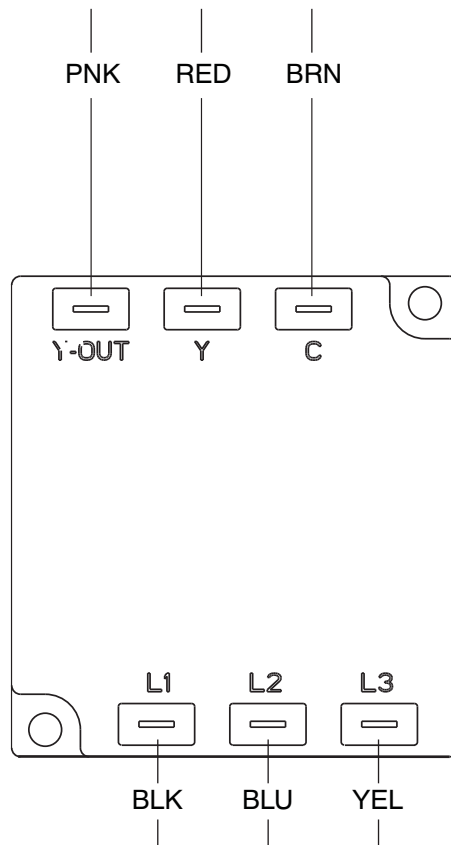

Fig. 5 - Phase Monitor Module Detail (575V)
- b. **For 575V** - Route the wiring harness along the top of the control box connecting the pink wire to the “Y-OUT” spade connector, the red wire to the “Y” spade, and the brown wire to the “C” spade of the phase monitor module. (See Fig. 5.)